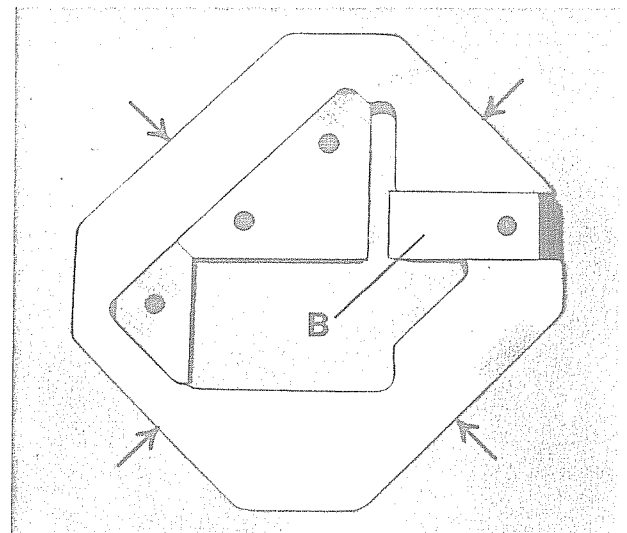

Fig. 36: PMG section blade, movable
a) Prior to mounting the movable section blade "F", properly lubricate the outer guide sides (Cf. fig. 36, arrows).